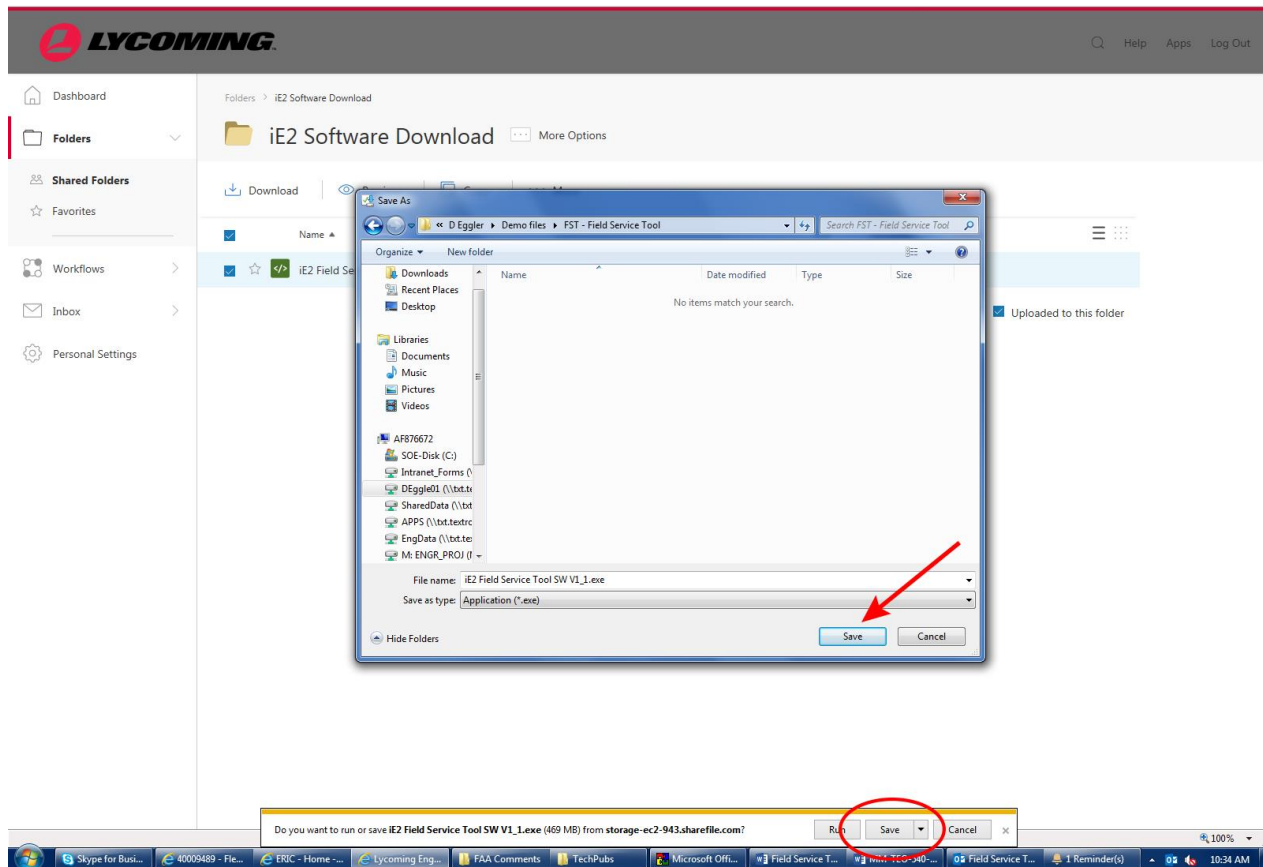

Figure 10
10. Click the **Save** button from the pop-up window at the bottom of the page (Figure 10) and choose a file folder location for the download from the Save As dialog window, then click **Save**.